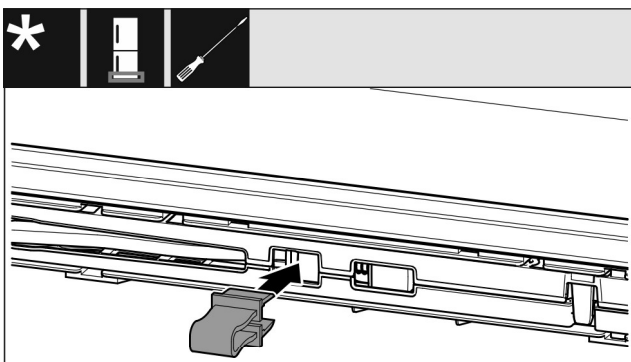

Fig. 15
- ▶ Snap the locking device into the opening. (see *Fig. 15*)